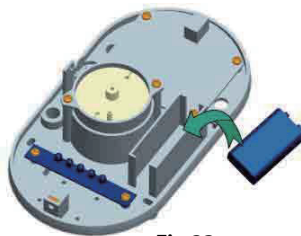

Fig 23
10.3. In case of power failure, you can have back-up battery inside, battery installation or removal, see Fig. 23.